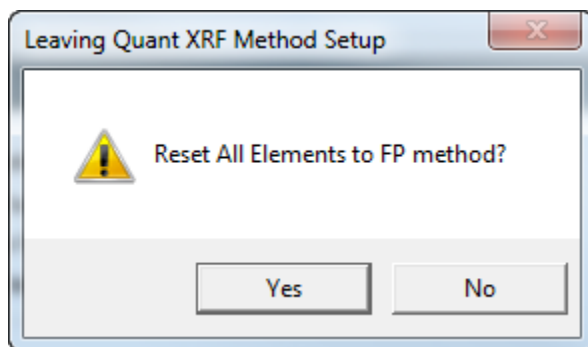

Figure 30. Leaving Quant XRF Method Setup Dialog. Select “Yes” to “Reset All Elements to the FP method.”
38. If you have just finished an SIR-FP analysis from the previous step above it will prompt the following dialog (see Fig. 30 below). Select “Yes”.